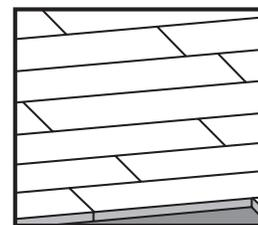
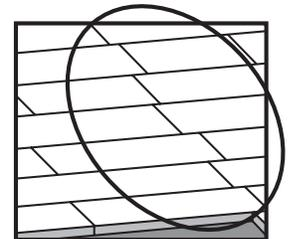

FIGURE 1.1 (CORRECT)
FIGURE 1.2 (INCORRECT)
**STEP 5:** Install the balance of the floor with a hardwood flooring nailer, always keeping in mind to space the strips / planks so as to avoid unsightly clusters of end joints (see figure 1.1 and figure 1.2)